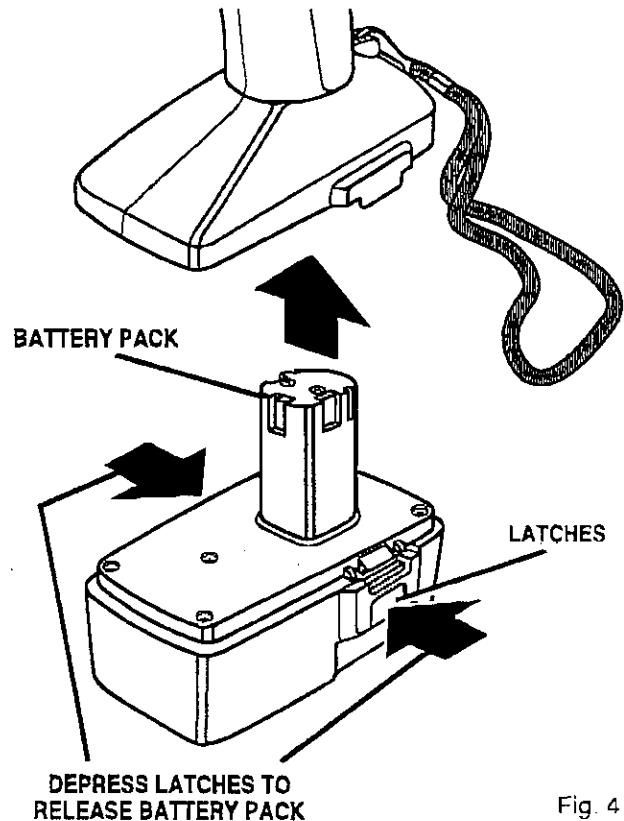

Fig. 4
- Place battery pack in your drill. Align raised rib inside drill with groove on battery pack. See Figures 4.
- Locate latches on end of battery pack and depress to release battery pack from your drill. See Figure 4.